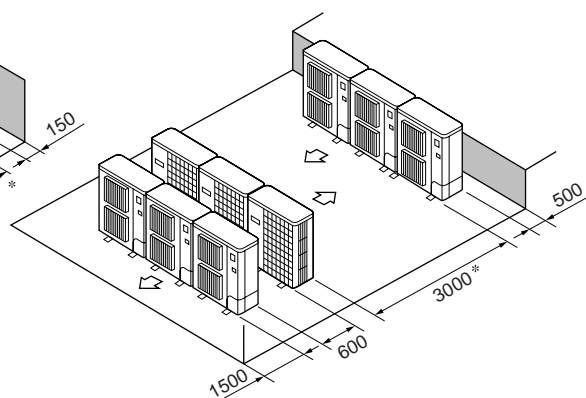

Fig.2-15
- Multiple parallel unit arrangement (Fig. 2-15)